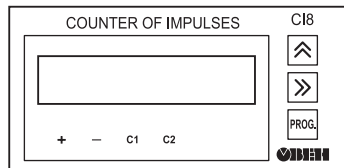
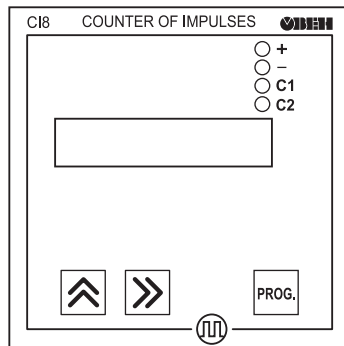

Figure 20.
Figure 21.
3.2.4. The view of instrument front panel for wall and panel (P1) types of housing is shown on figure 20 and for panel housing (P2) - on figure 21. Indication and control elements are arranged on the front panel.